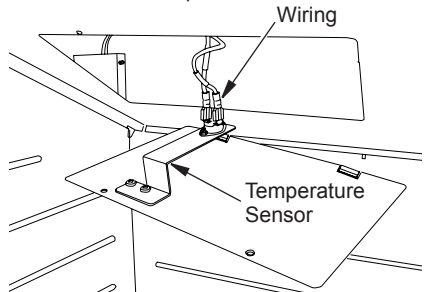

Figure 5 - Connecting Wires to Temperature Sensor
5. Connect wires to temperature sensor as shown in Figure 5.